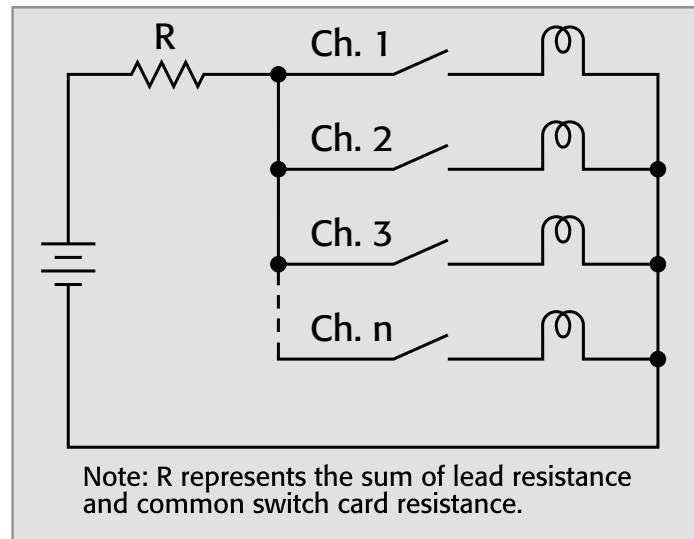

Figure 2. Switching a voltage source to multiple loads
Figure 2 shows a single voltage source connected to multiple loads, such as lamps. If two or more loads are connected to the source, the voltage at each load may be less than expected due to current flow through the common impedances (R), such as the test leads and trace resistance. As additional loads are connected, the total current will increase, thereby increasing the voltage drop across the common impedances (R).